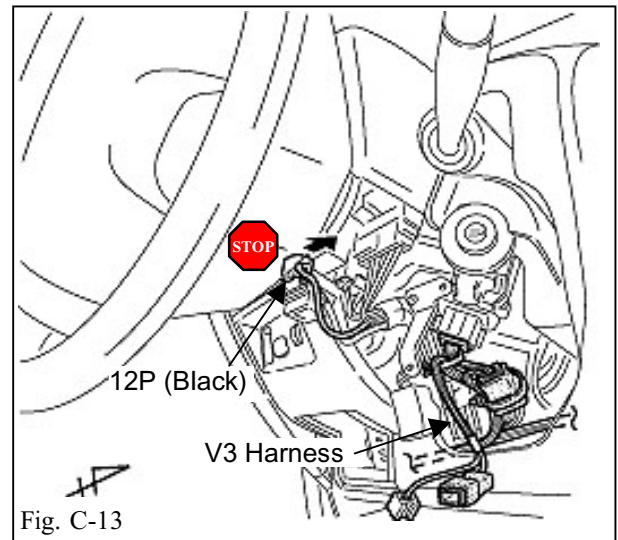

Fig. C-13
26. Route the V3 harness toward the right side of steering wheel. (Fig. C-13)
27. Locate and disconnect the black 12P connector from the steering wheel area. (Fig. C-13)